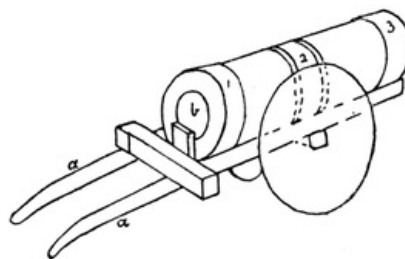

FIG. 334
**Cannon of the Fifteenth Century.** This may be made of a short mantle-box (with lids on), cardboard wheels and pieces of stripwood,  $\frac{1}{4}$  inch by  $\frac{1}{4}$  inch. Fig. 334 shows the finished cannon. The stripwood cart which the cannon rests on must be made to fit the mantle-box; the shafts *a* may be straight or curved. Round holes may be cut at *b*. This same cannon may be fitted with axles, and swing between two posts. The wheels should be painted black, and the mantle-box covered with black paper, with bands of yellow paper at 1, 2 and 3.
The breech-loader is loaded from the breech or rear end of the barrel and not at the muzzle. Figs. 334, 335 and 337 are examples of this kind and therefore must have a hole at each end.